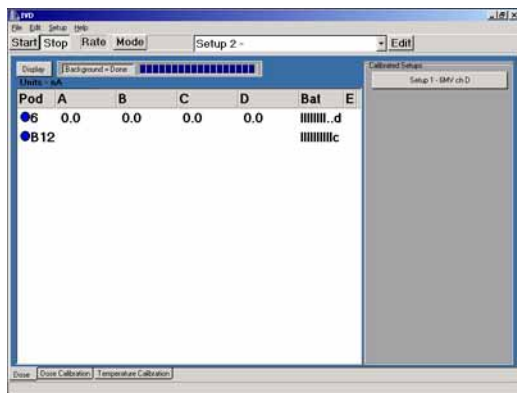

Figure 1-3. PC software control display
You can also control the system from your personal computer (PC) using the Windows software included with your system. The program collects dose measurements from the Pods and displays the dose results on the screen. You operate the system by clicking buttons on the PC screen (Figure 1-3).